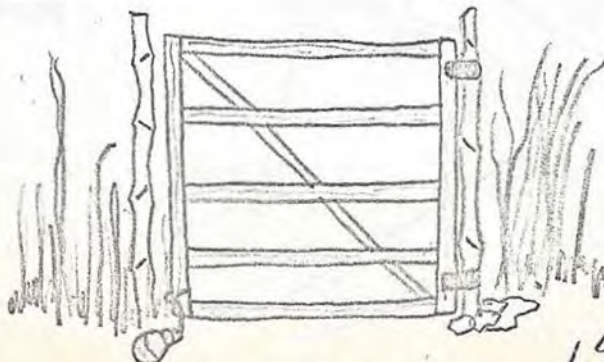

FIGURE 62. GRENADE AT GATE
c. Grenade At Gate: In most cases the grenades are buried (shallow) under the gate. A short trip wire is attached to the gate so that when it is moved even slightly, the grenade is detonated. (Figure 62).